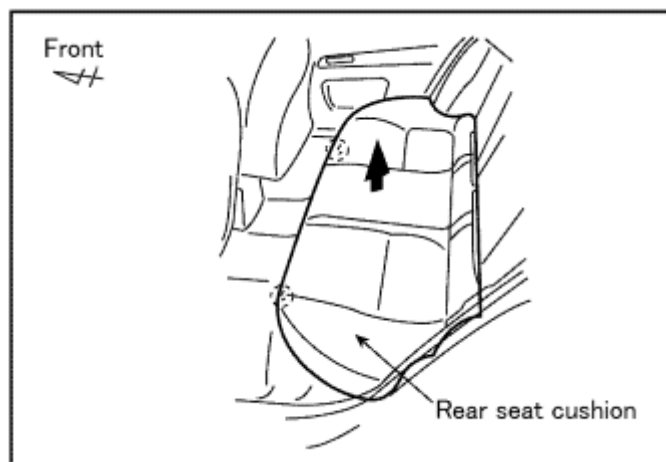

Figure E1
1. Lift rear seat cushion straight up disengages clips located beneath. (Figure E1)
2. Push female seat belt receptacle through seat cushion holes. (Figure E1)
3. Remove rear seat cushion. (Figure E1)